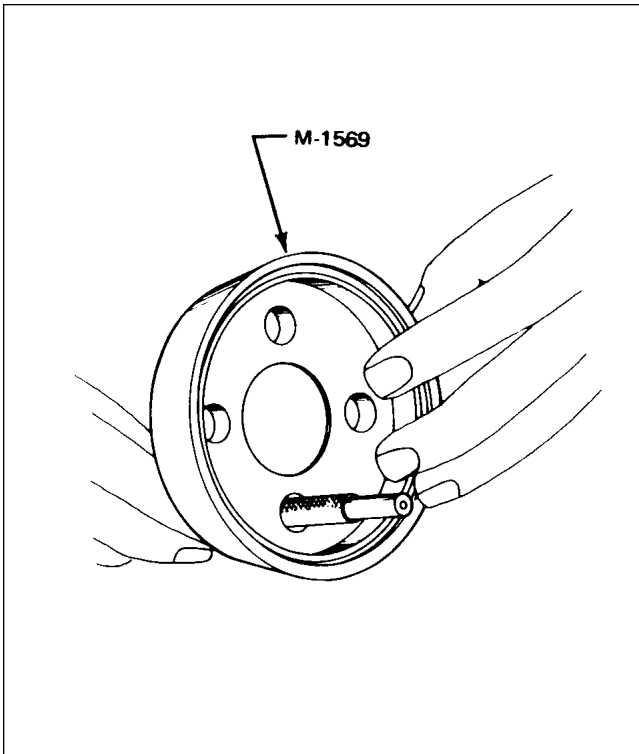

Figure 74-23. Insulation in Housing
- k. For magneto end of wire, insert wire through hole in M-1569 plug wire housing so shielding is through hole as shown in Figure 74-23.